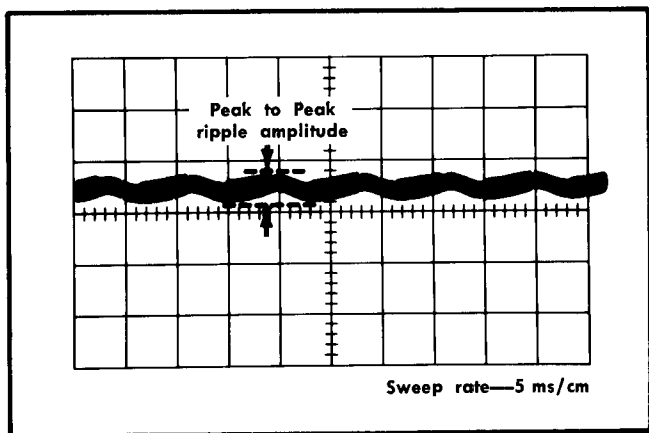

Fig. 7-7. Typical ripple display for checking power-supply regulation.
- g. Check for — Test oscilloscope display of power-supply ripple with line frequency ripple amplitude (see Fig. 7-7) not exceeding the maximum value given in Table 7-2.